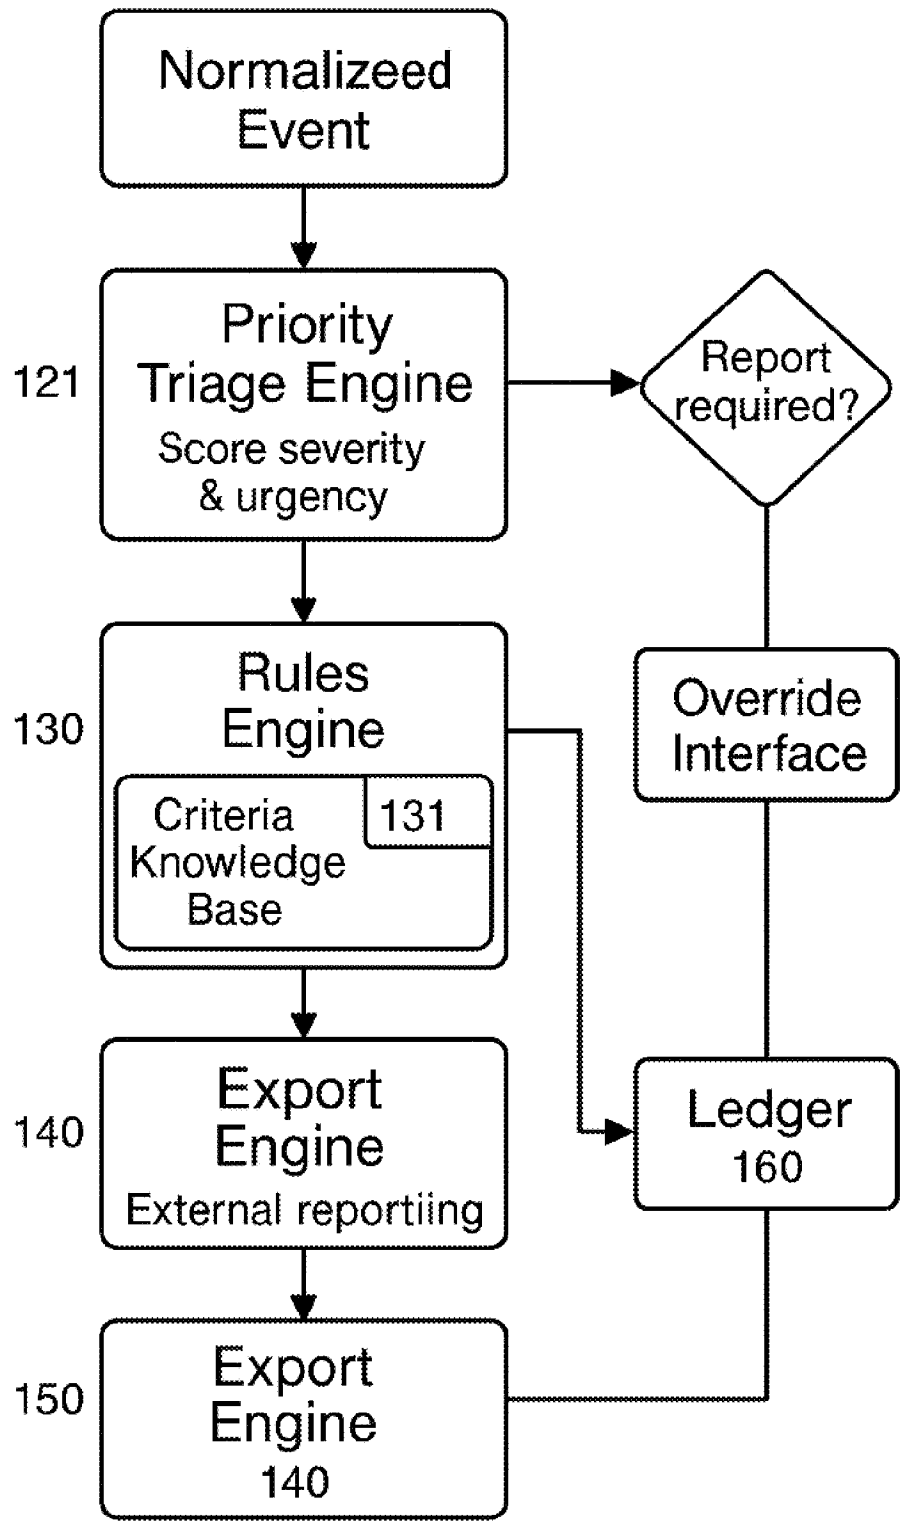

FIG. 2 – Decision Pipeline Flow
workflow. At the **input layer**, multiple prebuilt **connectors (101)** interface with diverse hospital systems and devices (e.g. smart infusion pumps, EHR modules, surgical trackers) to continuously ingest event data. All incoming signals feed into a central **Event Bus (110)**, where they are normalized to a unified schema for consistency. The normalized events then enter the **decision pipeline (120)** – a multi-stage processing core. The pipeline’s outputs branch into two parallel paths: an **Export Engine (140)** that formats and routes reports to external systems, using various **export modules (141)** for state reporting, PSO submission, etc.; and an **Immutable Audit Ledger (150)** that records every event and decision in a tamper-proof log for compliance and traceability. This architecture is modular and layered: connectors feed the event bus; the pipeline (detailed in Fig. 2) analyzes events; the export engine outputs to required channels; and the ledger underpins the whole system with an audit trail.
Figure 2: Decision Pipeline Flow, illustrating event triage, rule-based decision-making, and feedback loop. A **Priority Triage Engine (121)** first scores each normalized event by severity and urgency, assigning a risk priority level (e.g. flagging critical events for immediate response). Next, a **Rules Engine (130)** with a built-in criteria knowledge base **(131)** checks regulatory thresholds and PSQIA guidelines. It automatically decides which actions are required – e.g. whether the event must be reported to state health authorities, sent to a Patient Safety Organization (PSO) for confidential analysis, or both. After rules evaluation, the pipeline triggers two outputs in parallel: the event data is sent to the Export Engine for external reporting, and a log entry is added to the immutable Ledger (150) for audit. An **optional Clinician Override workflow (160)** is shown as a feedback loop: before final reporting, authorized staff may review or modify the system’s decision via an **override interface (161)**. Any such human intervention is itself logged to the ledger, preserving a full audit trail of manual overrides. (Fig. 2 thus highlights decision points like compliance checks and override opportunities, as well as parallel logging of each step.)